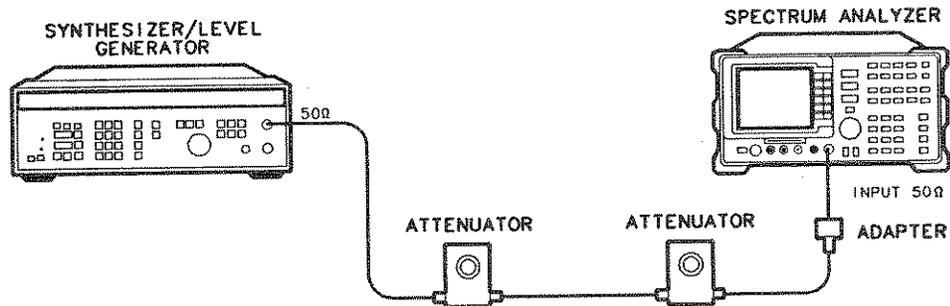

Figure 4-12. Reference Level Accuracy Test Setup
2. Connect the equipment as shown in Figure 4-12. *Option 026:* Use the BNC to SMA and 3.5 mm adapters instead of the Type N to BNC adapter. Set the HP 355D to 10 dB attenuation and the 355C to 0 dB attenuation.